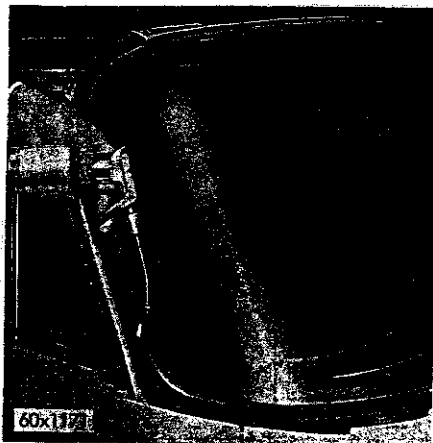

Fig. 66—Sealing the Windshield Weatherstrip
(2) Apply a generous coating of sealing compound to the body fence and to the lip of the weatherstrip where it contacts the opening frame; completely around the weatherstrip.
(3) It is advisable to inspect and seal the seam joint between the roof panel and windshield opening fence.
(4) Form a ball of sealing compound and place it in each moulding retaining clip bolt holes.
(5) When installing the mouldings, press the retaining clip bolts through the balls of the sealing compound.
(6) Use black weatherstrip cement to seal between the windshield glass and the weatherstrip (Fig. 66).
(7) Insert the nozzle of the dispensing gun about  $\frac{1}{8}$  inch between the glass and weatherstrip.
(8) Apply a bead of cement between the glass and weatherstrip.
(9) Apply about three feet at a time, clean the excess off with a cloth moistened with solvent.
(10) Place the glass in position across the cowl.
(11) Slide the upper edge of the glass into the channel of the weatherstrip.
(12) Pound the glass with the palm of the hand,